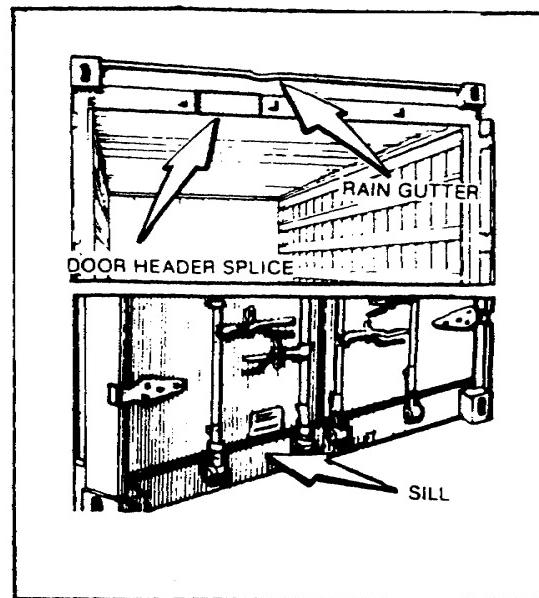

Figure 2-6. Where To Inspect for Door Headers and Sills.
*1.1 and 1.2.* Door headers (above doors) and sills (below doors) must be inspected for any damage that would prevent proper door action or would weaken the structural strength of the MILVAN (figure 2-6).
1.16. There must be no major damage to the rain gutter. Minor damage is acceptable (figure 2-6).